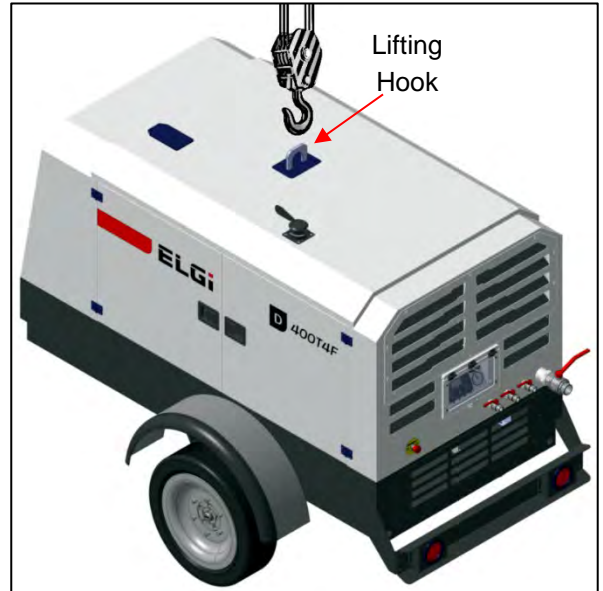

Figure 6.2-1 Lifting system of the compressor
- 3) Securely attach the lifting device's hook to the designated lifting point on the compressor (refer to Figure 6.2-1).